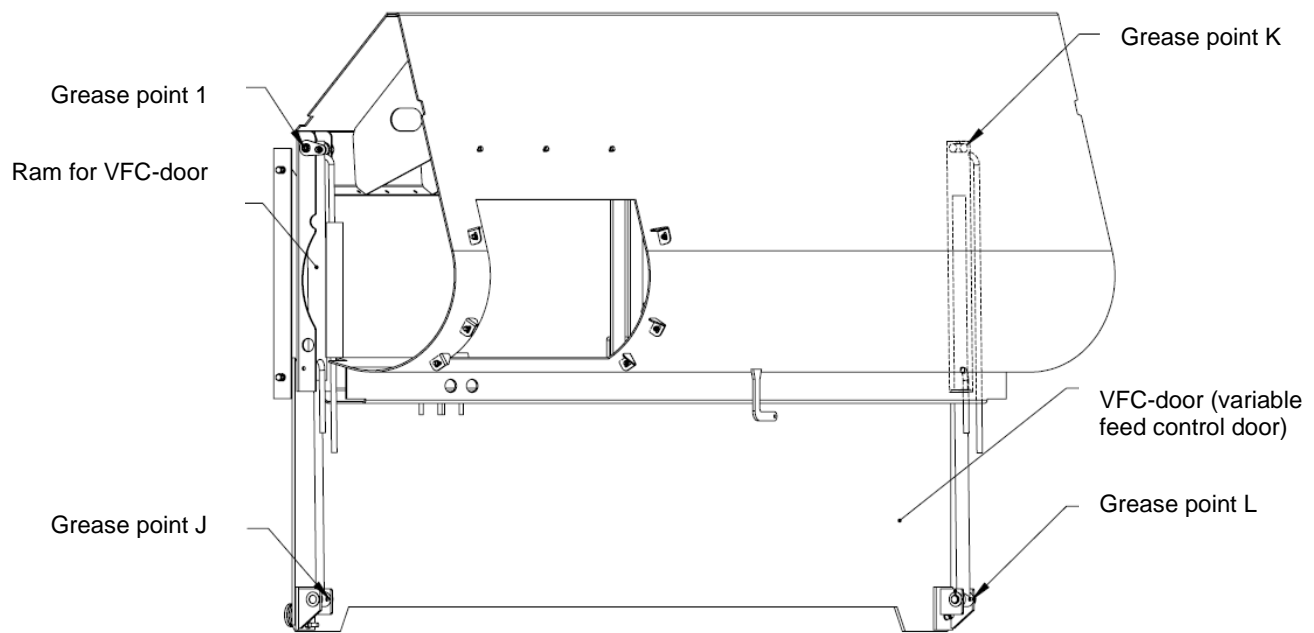

Figure 14: VFC-door grease points
- 2 pins and 2 bushes on the guillotine door lifting rams (I, J, K and L, Figure 14)